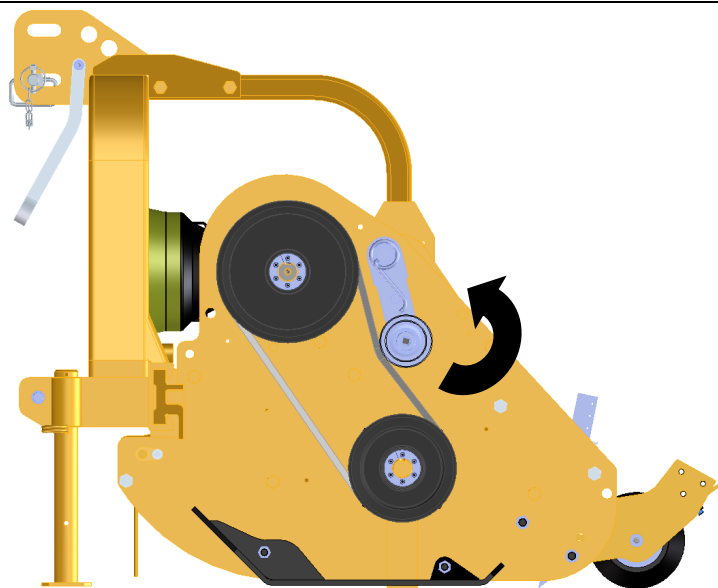

Figure 26
2. After replacing the spring or any other damaged part, take the tensioning unit (figure 25) and place it on the side of the mulcher, inserting the hex bolt 30 as shown in figure 26;